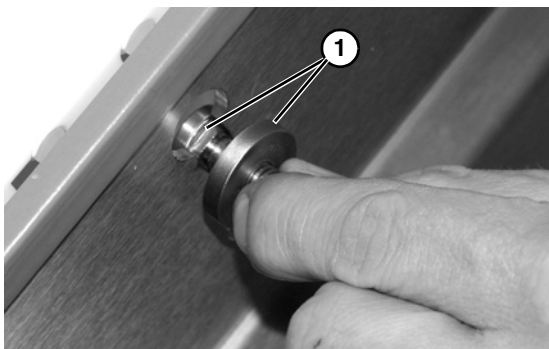

Figure 28
1. Insert carriage bolts with spacers (**Figure 28, item 1**) into slotted holes in conveyor side.